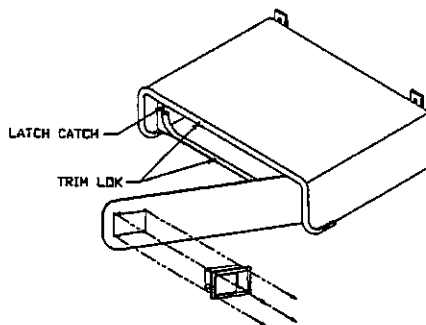

FIG. 4-63 TOOL BOX TRIM-LOK
d. Tool box(es) around the top and side edges, and around opening edge behind the door. (See FIG. 4-63, next page)